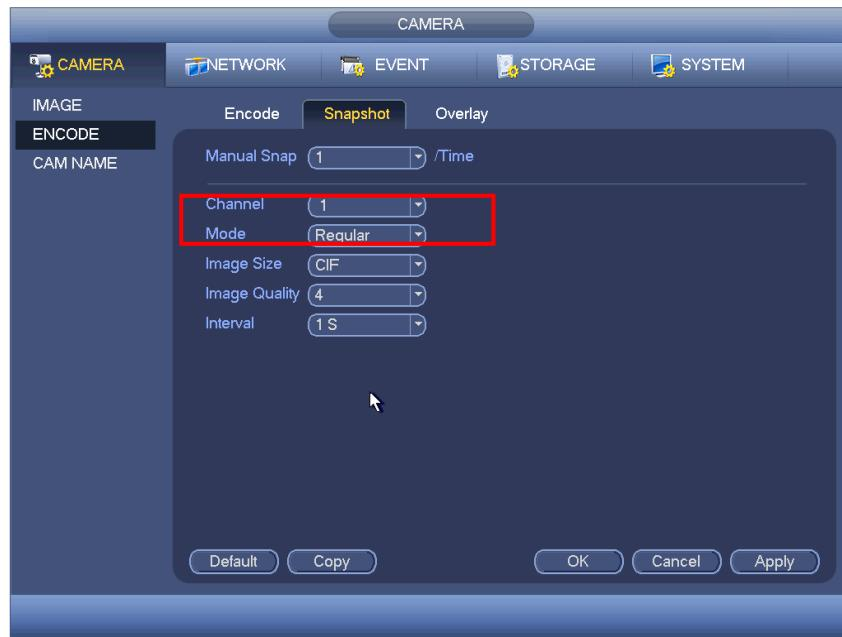

Figure 4-115
- In main menu, from Setting->Camera->Encode->Snapshot interface, here you can input snapshot mode as regular, size, quality and frequency. See Figure 4-115.